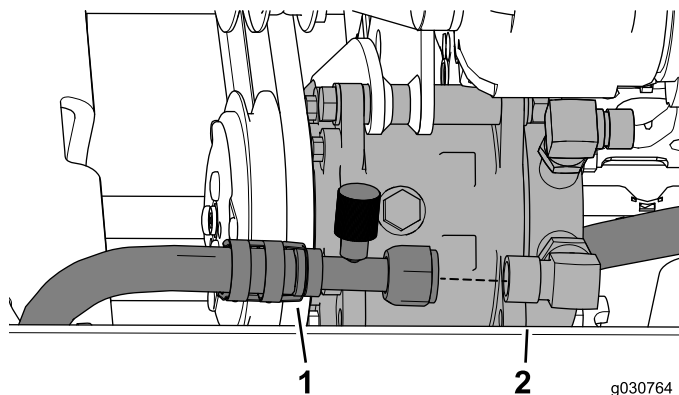

Figure 42
1. Connect the air-conditioning low-pressure hose (7/8 inch) from the cab unit to the right-angle fitting (7/8 inch) as shown in Figure 42.